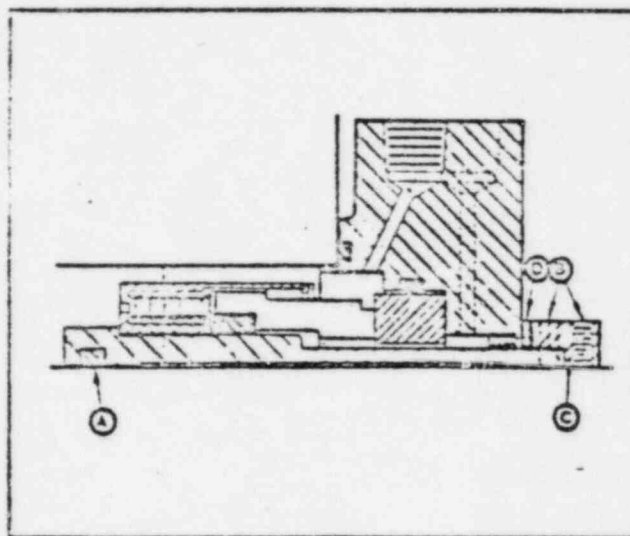

FIGURE 2
4. Packaged shaft seals are shipped as a completely assembled unit for easy installation (See Figure 2).